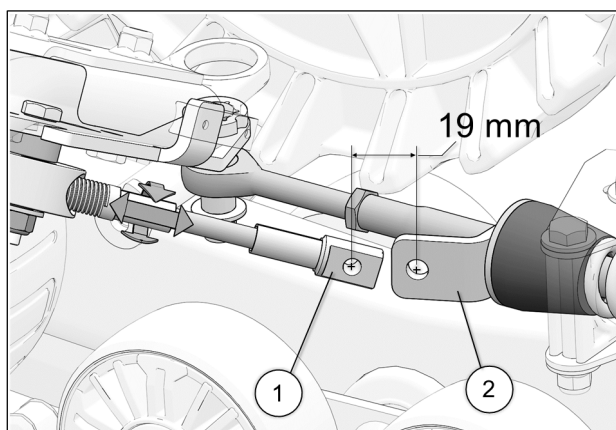

Fig. 26
14. Turn the vehicle's steering wheel to its maximum point of travel on the left. While maintaining pressure on the steering wheel, turn threaded rod to adjust length of cable. See Fig. 26
15. Position cable end hole (1) 19 mm [ $\frac{3}{4}$  in.] short of support plate (2) mounting hole. See Fig. 26